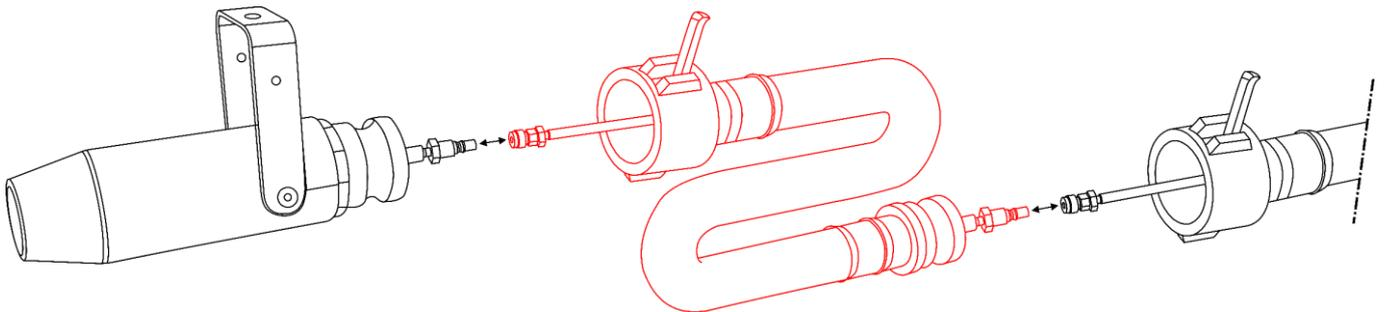

Fig. 09
- 03) Connect the snow liquid hose inside the ST-10 extension hose (red) to the output nozzle **(09)**. See Fig. 09.
- 04) Connect the snow liquid hose on the other end of the ST-10 extension hose to the output hose **(08)**. See Fig. 09.